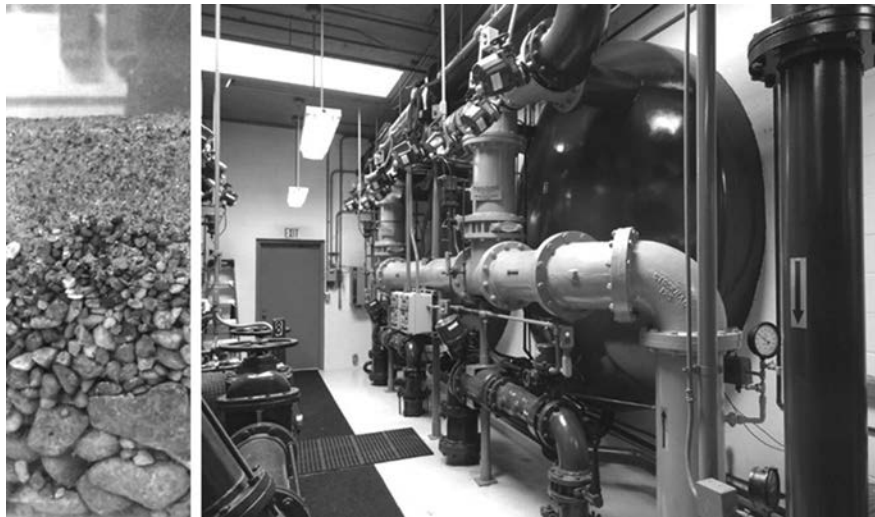

FIGURE 18.4
- **Rapid sand filter:** composed of layers of sand and gravel, effluent from the settling tank seeps through the filter from above to remove solid particles from the water as shown in Fig. 18.4. The sand and gravel layers are sometimes seeded with carbon to remove dissolved organic material.